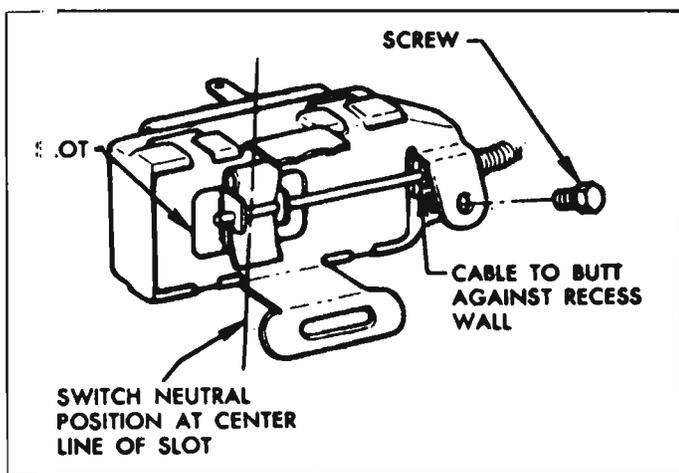

Fig. 4-42—Installation of Cable in Switch
7. Install cable in switch as shown in Figure 4-42.